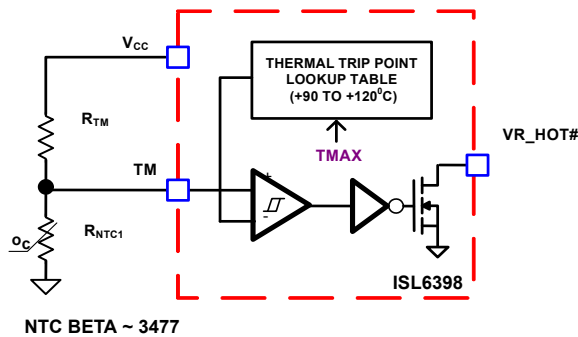
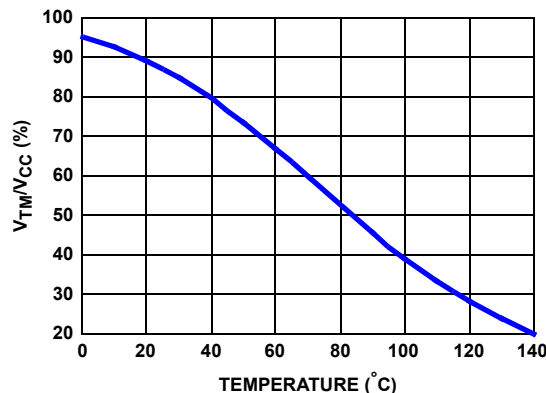

FIGURE 20. BLOCK DIAGRAM OF THERMAL MONITORING FUNCTION
FIGURE 21. THE RATIO OF TM VOLTAGE TO NTC TEMPERATURE WITH RECOMMENDED PARTS
The block diagram of thermal monitoring function is shown in Figure 20. One NTC resistor should be placed close to the respective power stage of the voltage regulator VR to sense the operational temperature, and pull-up resistors are needed to form the voltage dividers for the TM pins. As the temperature of the power stage increases, the resistance of the NTC will reduce, resulting in the reduced voltage at the TM pin. Figure 21 shows the TM voltage over the temperature for a typical design with a recommended 6.8kΩ NTC (P/N: NTHS0805N02N6801 from Vishay, $b = 3477$) and 1kΩ resistor R_{TM} . It is recommended to use those resistors for the accurate temperature compensation since the internal thermal digital code is developed based upon these two components. If a different value is used, the temperature coefficient must be close to 3477 and R_{TM} must be scaled accordingly. For instance, NTC = 10kΩ ($b = 3477$), then R_{TM} should be $10k\Omega / 6.8k\Omega * 1k\Omega = 1.47k\Omega$.
There is a comparator with hysteresis to compare the TM pin voltage to the threshold set by the TMAX register (programmable via PMBus E8[2:0]) for VR_HOT# signal. With TMAX set at +100°C, the VR_HOT# signal is pulled to GND when TM voltage is lower than 39.12% of V_{CC} voltage, and is open (pulled high through TM) when TM voltage increases to above 40.98% of V_{CC} voltage. The comparator trip point will be programmable by TMAX values. Figure 21 shows the operation of those signals.
Based on the V_{CC} voltage, the ISL6398 converts the TM pin voltage to a 6-bit TM digital signal for temperature compensation. With the non-linear A/D converter of ISL6398, the TM digital signal is linearly proportional to the NTC temperature. For accurate temperature compensation, the ratio of the TM voltage to the NTC temperature of the practical design should be similar to that in Figure 21.
When a different NTC type or different voltage divider is used for the TM function, the TCOMP voltage can also be used to compensate for the difference between the recommended TM voltage curve in Figure 21 and that of the actual design. If the same type NTC ($\beta = 3477$) but different value is used, the pull-up resistor needs to be scaled, as shown in Equation 20:
1. Properly choose the voltage divider for the TM pin to match the TM voltage vs temperature curve with the recommended curve in Figure 21.